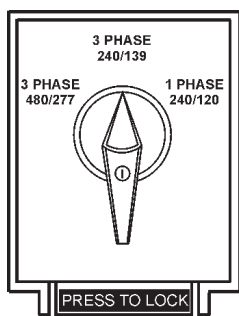

Figure 21. Voltage Selector Switch 240/139V Three-Phase Position
1. Place the voltage selector switch in the 3Ø 240/139 position as shown in Figure 21.